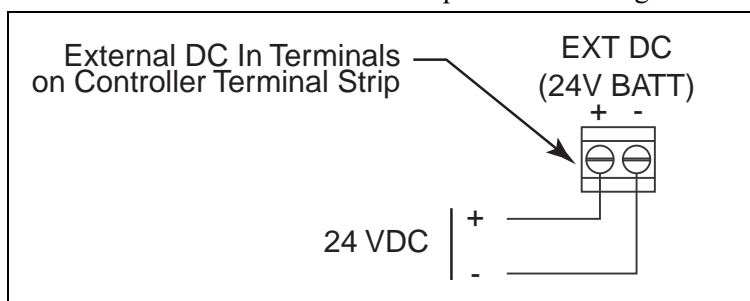

Figure 8: DC Power Wiring
6. Connect the DC wires to the controller terminal strip as shown in Figure 8.